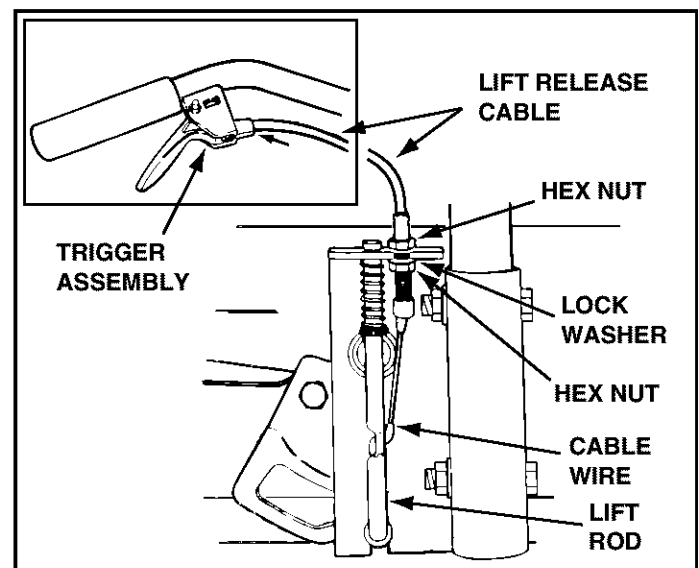

FIGURE 24 RIGHT SIDE VIEW
- Push the lift handle down into the locked position. Insert the end of the cable wire into the hole in the lift rod. Place the threaded fitting into the slot in the lift bracket, with one hex nut above and one hex nut and the lock washer below the slot. Tighten the nuts, adjusting them to eliminate slack in the cable wire. See figure 24. Refer also to the Service and Adjustments section on page 20 in this manual.